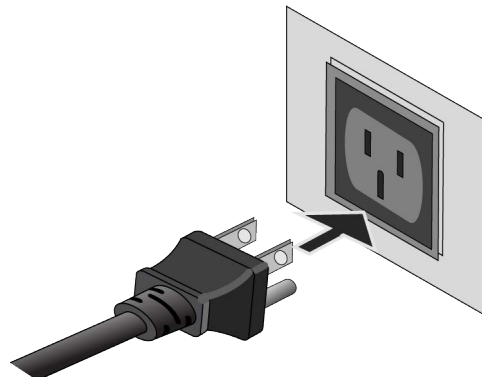

Figure 55. Connecting the Power Cord to an AC Power Source
4. Connect the power cord to an appropriate AC power source. Refer to Figure 55.